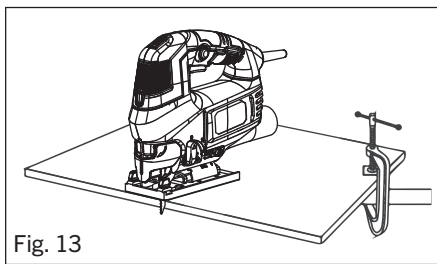

Fig. 13
3. Rest the front of the jig saw base on the workpiece and align cutting edge of the blade with the cutting line on your workpiece (Fig. 13). Make sure the power cord is out of your way and not in the path the blade will follow.